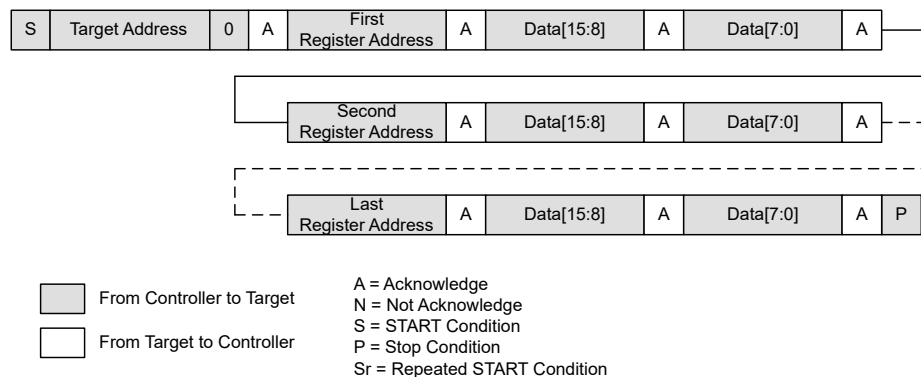

图 7-22. Write to Multiple Registers
7.5.1.5.2 Writing Multiple Registers (图 7-22)
A complete word must be written to a register (high byte and low byte) for proper operation, as shown in 图 7-22. Steps for this process are: